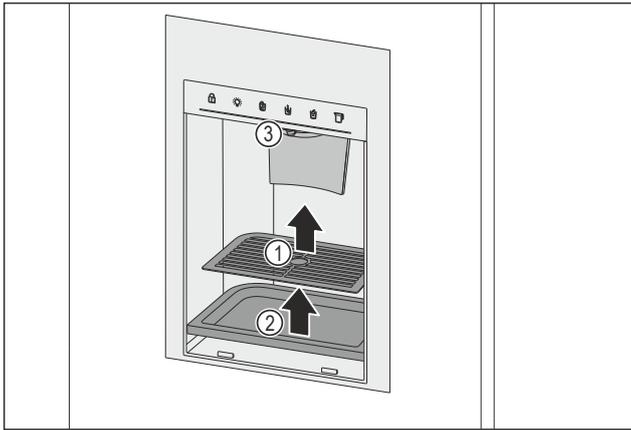

Fig. 159 Removal of drip grid and drip tray
- ▶ Remove the drip grid Fig. 159 (1).
- ▶ Remove the drip tray Fig. 159 (2).
- ▶ Clean the outlet Fig. 159 (3) and surrounding area with a soft, clean cloth, lukewarm water and a little rinsing liquid.